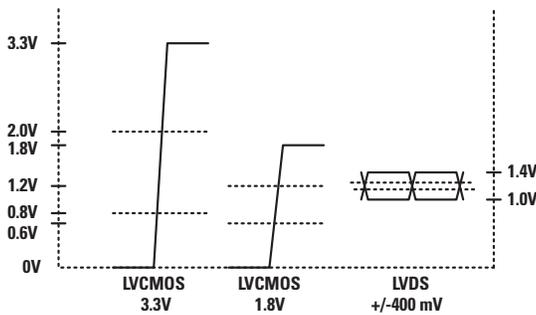

Figure 4-2. Low-Speed Interface Options: 3.3V LVCMOS, 1.8V LVCMOS, and LVDS
The Channel Link II Ser/Des family is significantly expanded over the prior generation of Channel Link (I) Ser/Des. The original family supported 5V CMOS and 3.3V LVCMOS interfaces in 21-, 28-, or 48-bit wide parallel buses. A comparison of I/O signaling options is shown in **Figure 4-2**.